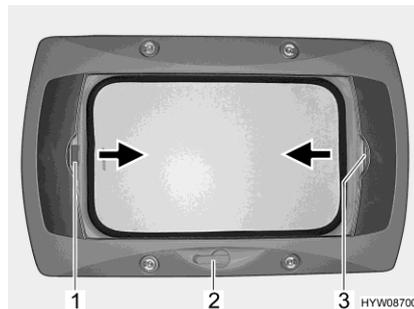

Fig. 73 Wind-up skylight
- Rotate the hand crank (Fig. 73,2) until a resistance can be felt.
- Pull the handle of the Roman shade (Fig. 73,3) in the direction of the arrow and release it in the desired position. The Roman shade will stay in that position.
- Use the handle to pull the insect screen (Fig. 73,1) in the direction of the arrow to the opposite handle of the Roman shade (Fig. 73,3) and allow it to engage.
- Press the handle of the insect screen (Fig. 73,1) at the back upwards and detach the insect screen from the Roman shade (Fig. 73,3).